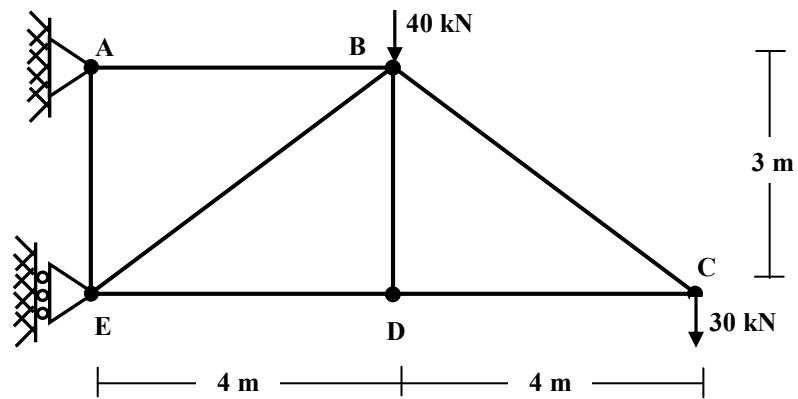

FIGURE-5 Q-5 (b)
- (b) Find the force in each member of the truss as shown in figure-5. 7